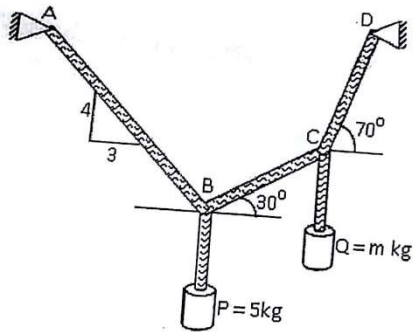

Figure 1.5
11. Block P=5kg and block Q of mass “m” kg are suspended through a cord which is in equilibrium as shown in Figure 1.5. Determine the mass of block Q.